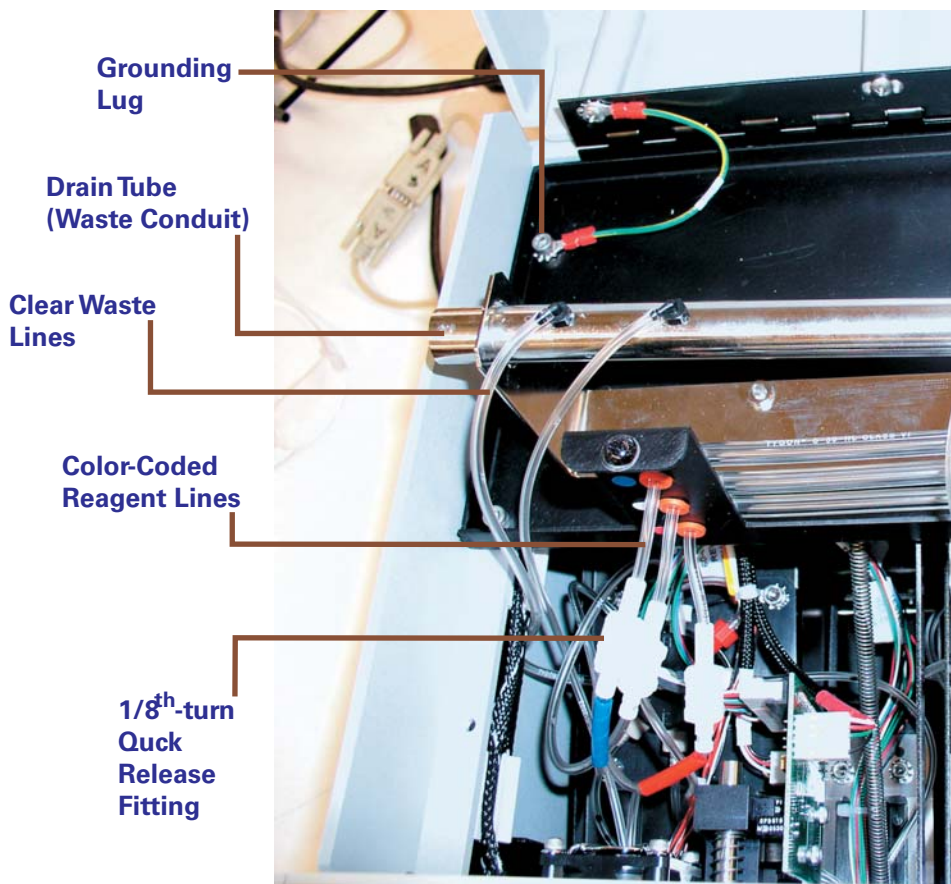

Figure A.1
1. Open top cover by pressing the two buttons located on the top left and right sides towards the front of the instrument. See Figure 1.1 on page 11 and Figure A.1. In the newer FS-450 versions, the buttons are no longer present. In this case, simply lift the lid.